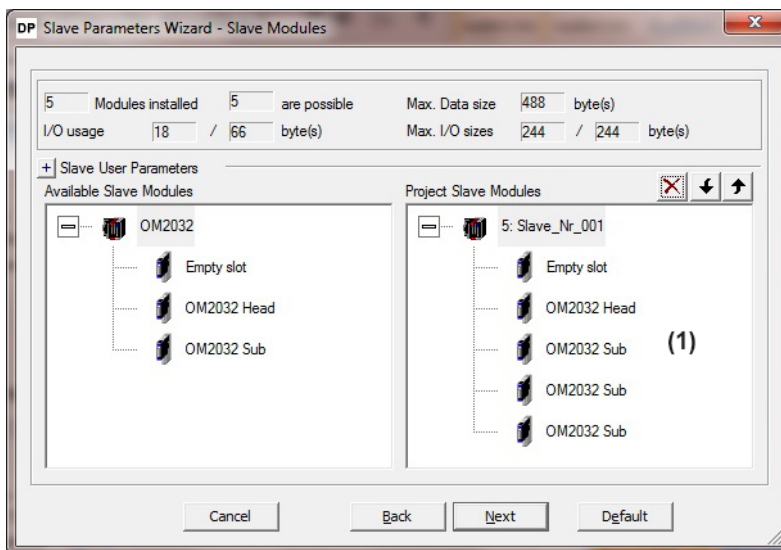

Fig. 6.24: Dialog „Slave Modules“, with one head module and three sub modules
Example (Fig. 6.24): OM 2032 configuration (1) with one head module and 3 sub-modules (128 keys in total).